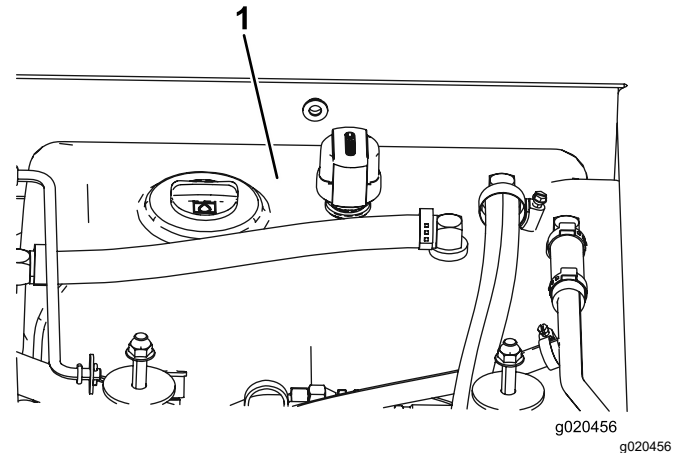

Figure 86
4. Fill the reservoir (Figure 86) with hydraulic fluid; refer to Checking the Hydraulic Fluid (page 72).